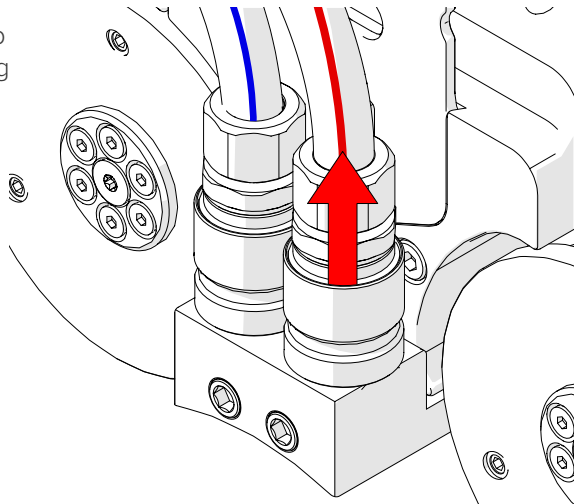

Fig. 171 - Disconnect hose by pulling sleeve of the quick connect
1. To disconnect a hose, grasp the sleeve of the hose fitting and pull away from the crawler (Fig. 171).